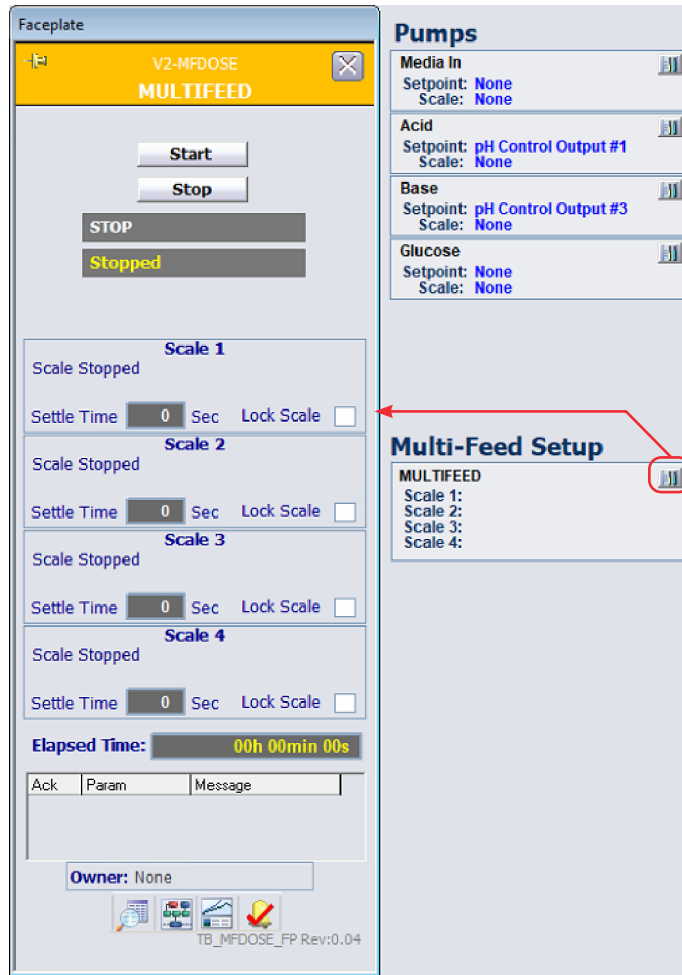

Figure 5.36. Multi-Feed control faceplate.
1. To access the **Multi-Feed** faceplate, select the faceplate button on the **Multi-Feed Configuration** control module (Figure 5.36).